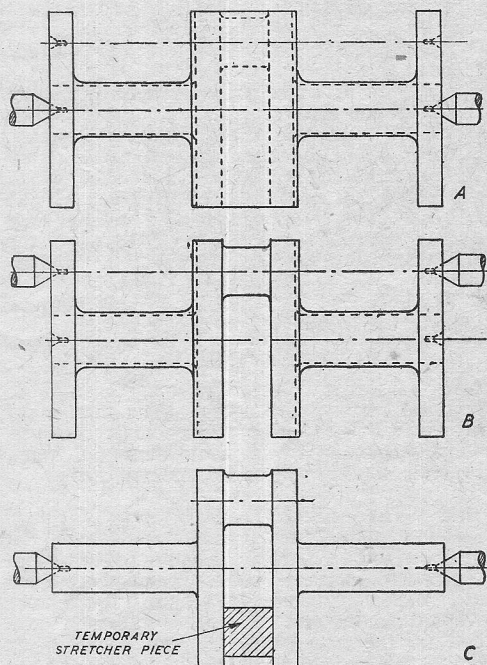

Fig. 5. Successive stages in machining a crankshaft from solid bar
This is quite a straightforward procedure, and is clearly illustrated by Fig. 5, but it calls for some care, especially in the final stages, and may need special tools to deal with a narrow crankpin between deep webs. It is usual to rough down the main journals first to within about $\frac{1}{16}$ in. of finished size, as at (A), leaving sufficient metal at the ends to preserve the centres to mount the shaft for the second operation of turning the crankpin. It is sometimes worth while to go to the trouble of sawing and drilling away as much of the unwanted metal around the pin as possible, but many workers consider it quicker to do this entirely by turning. When mounted on the crankpin centres, (B) the work will be considerably out of balance, but this can be remedied to some extent by using a driving dog or carrier having a bias in the other direction, or weighted to suit particular requirements.